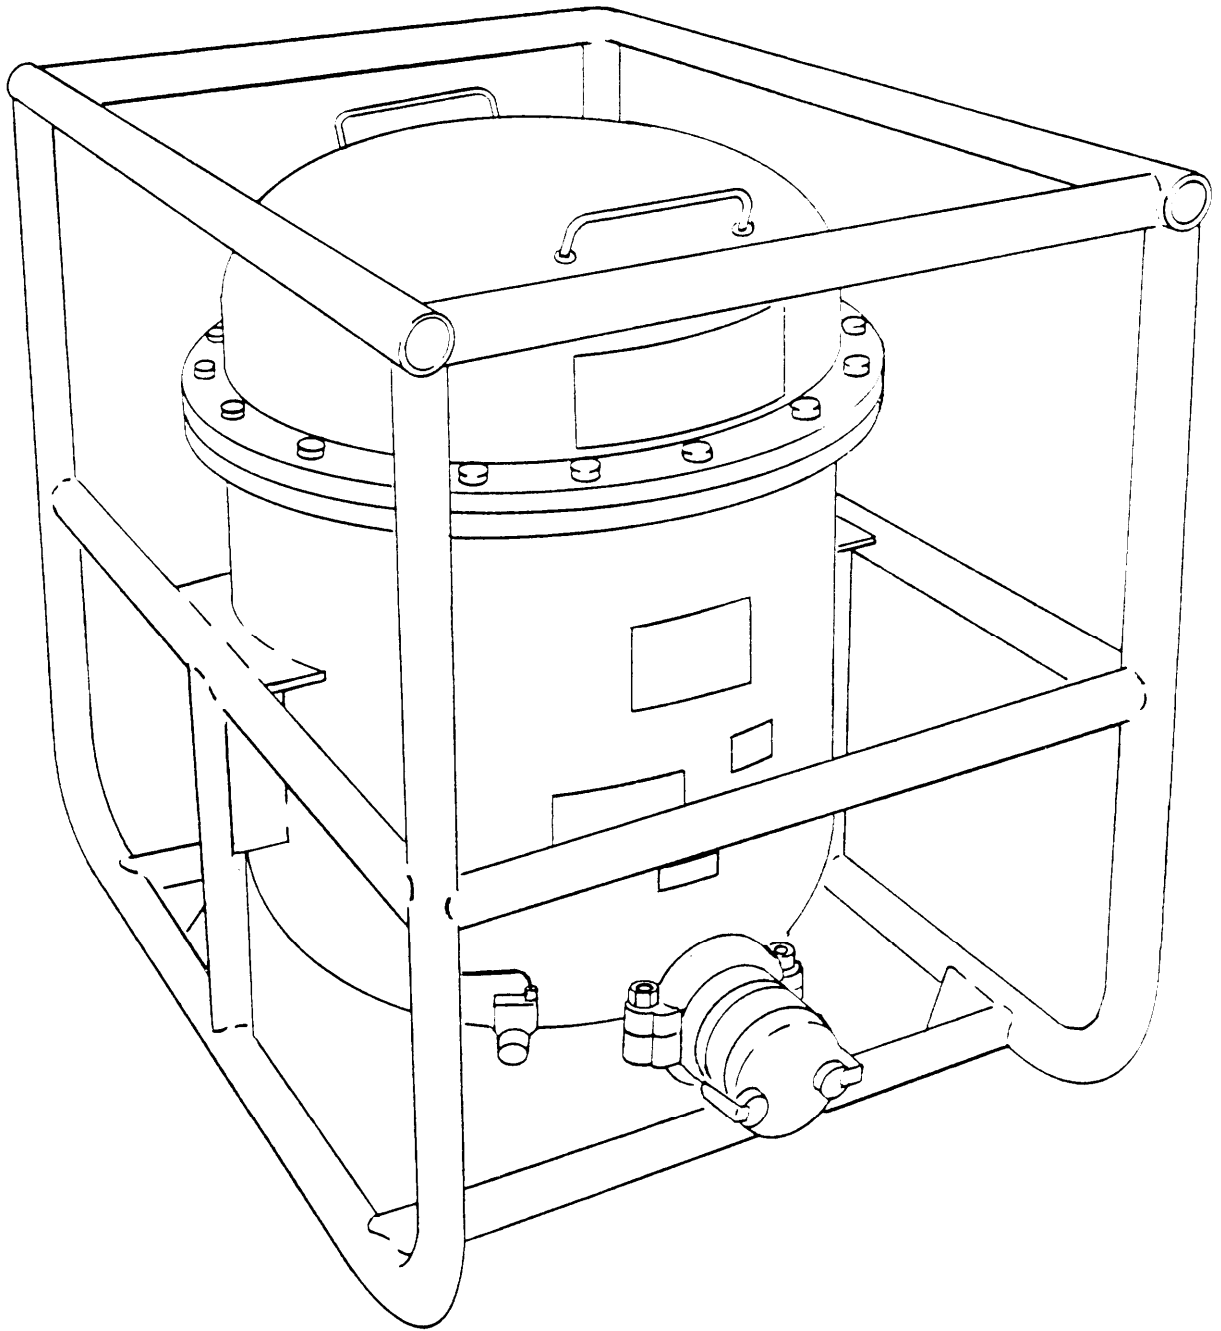

Figure 1-4. Filter/Separator, 350 Gal/on Per Minute Capacity.
b. *Filter/Separator* (figure 1-4). Two 350 gpm filter/separators maybe connected in parallel on the delivery side of the system to remove entrained water and solid contaminants from fuel before it is dispensed into vehicles or containers.